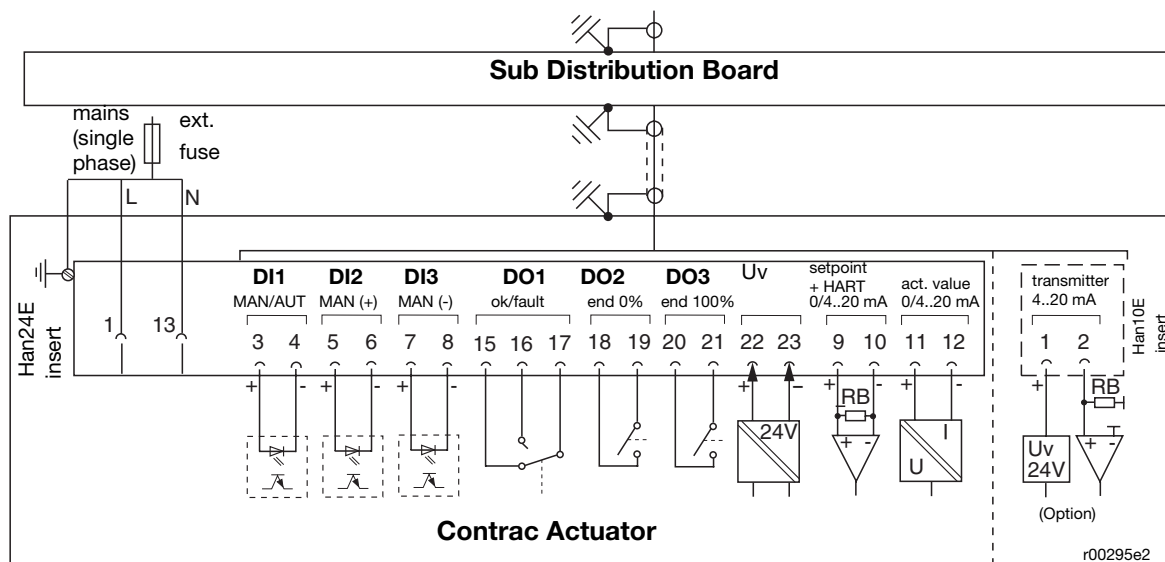

Fig. 4: Electrical connection, standard
- Drill a cone bore into the valve lever for mounting the second ball-and-socket joint, as shown in Figure 4.